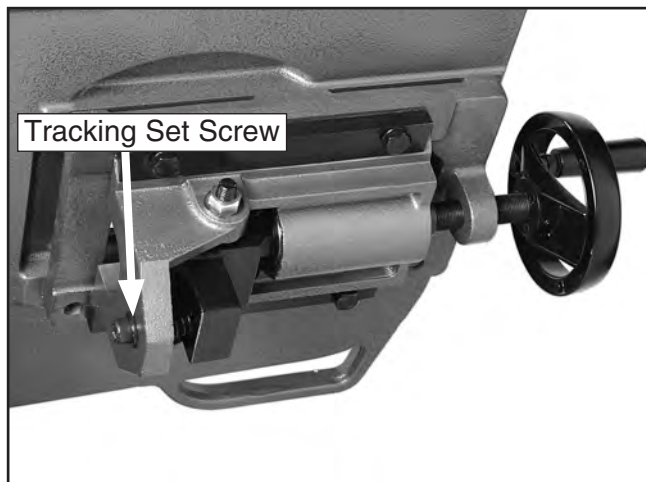

Figure 42. Tracking set screw.
1. Loosen or tighten the tracking set screw in **Figure 42** until the blade is tracking properly. The blade is tracking properly when the back of the blade is lightly touching the flange of both wheels.